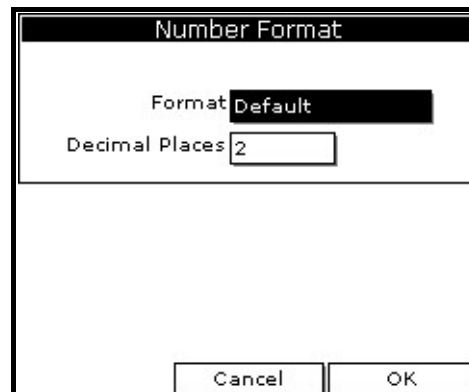

Figure 16: Number Format Window
2. Use the arrow keys to scroll to Format and press **[ENTER]**. The screen appears similar to Figure 16.